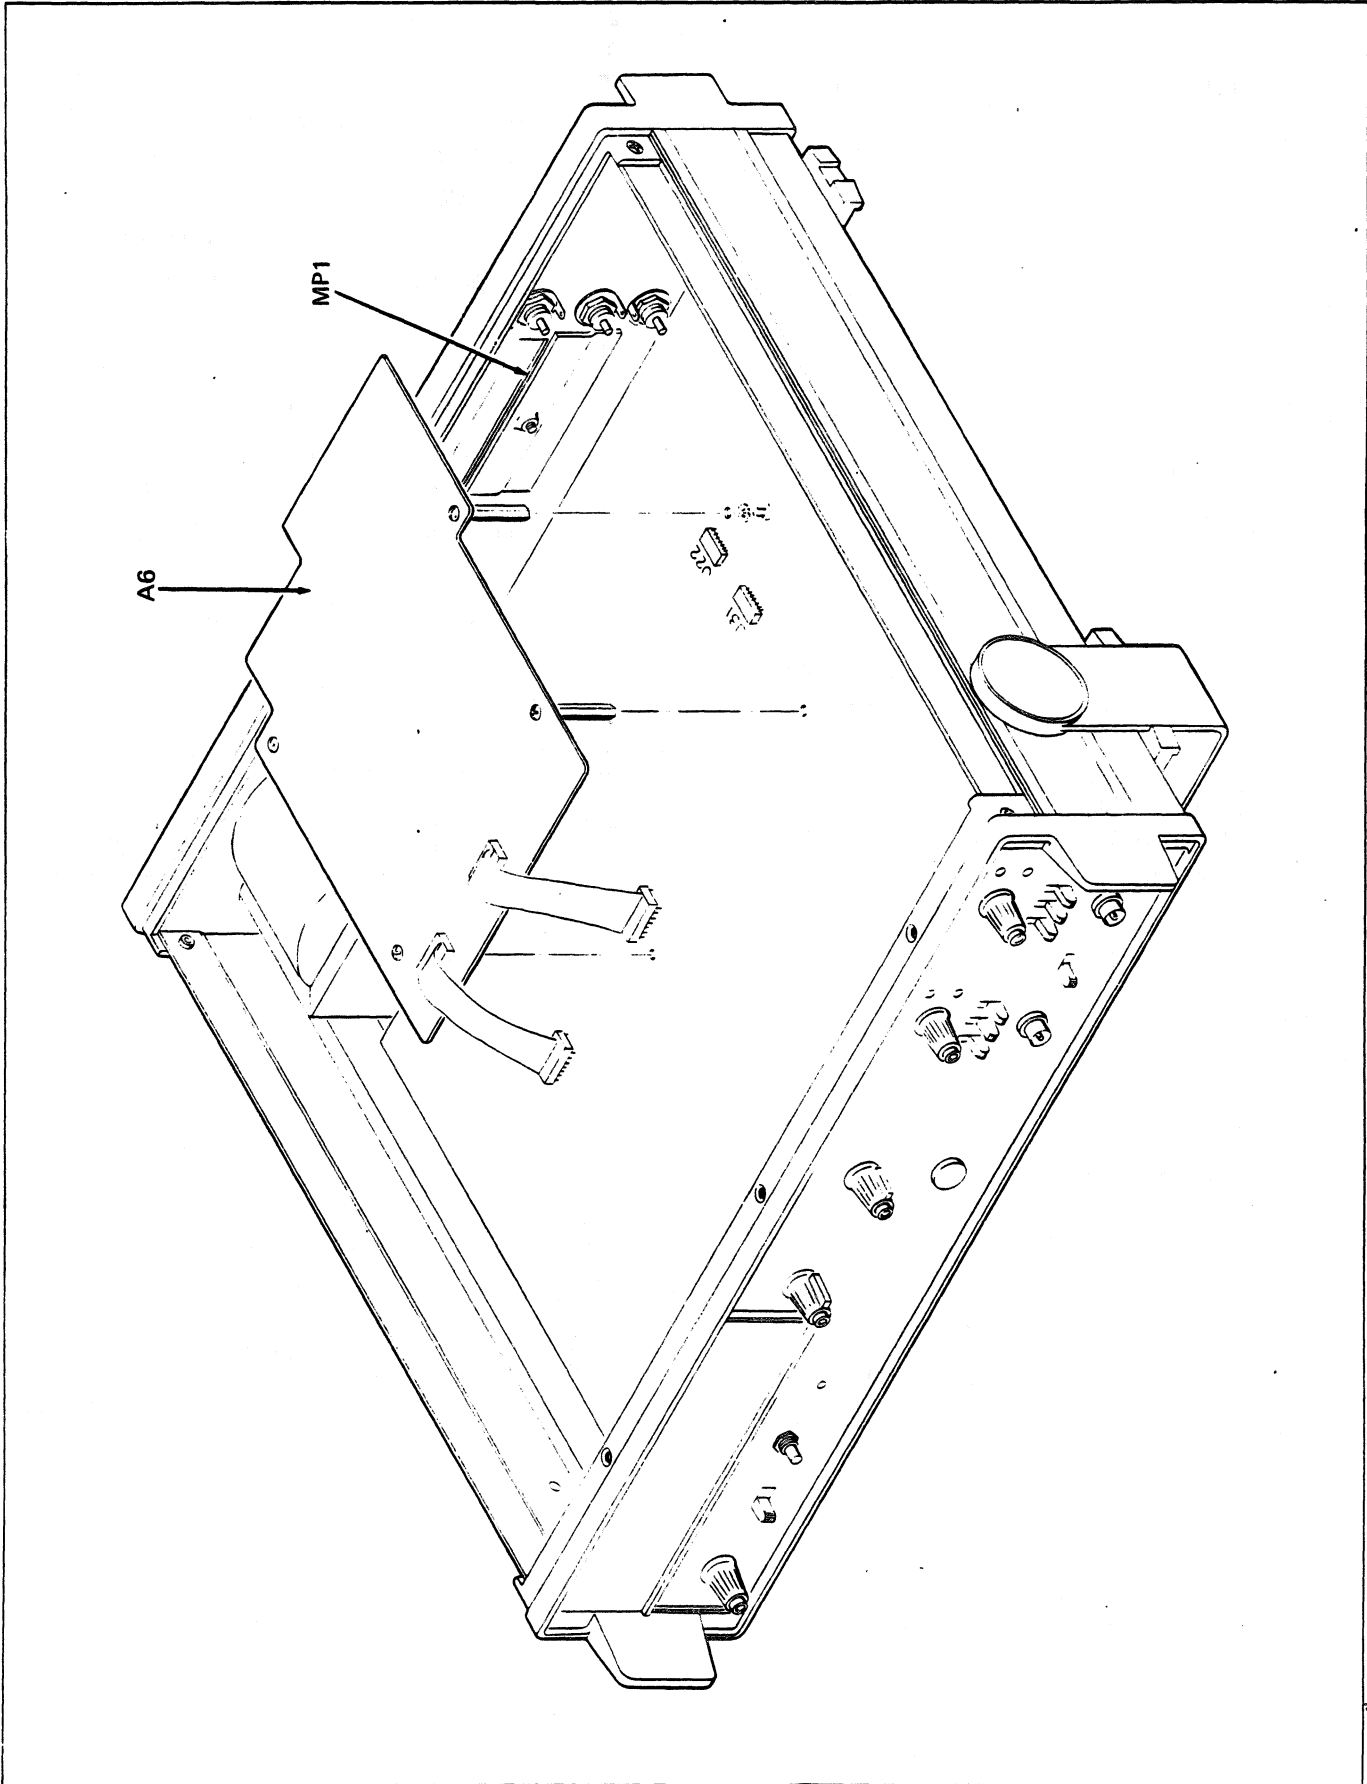

Figure 602-2. -02 Option, Data Output Unit
-02	DATA OUTPUT UNIT, OPTION -02 FIGURE 602-2